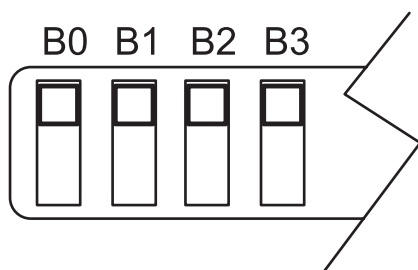

Fig. 4: B0 through B3 DIP Switches
- 6 If using BACnet MS/TP, Set B bank of DIP switches to set the baud rate on ProtoNode RER (FPC-N34). (See Fig. 4 & Table D)